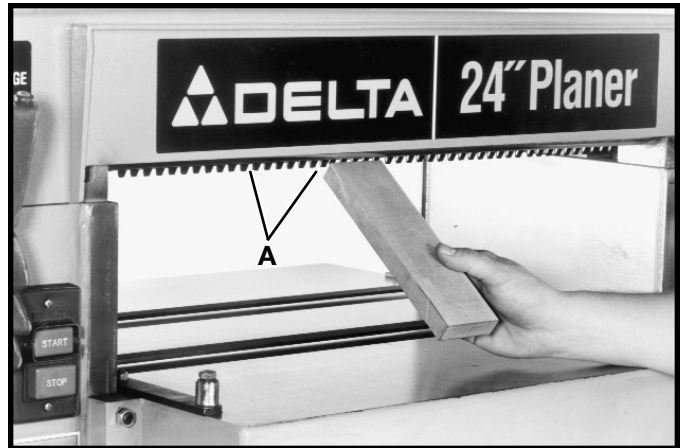

Fig. 27
A series of anti-kickback fingers (A) Fig. 27, are provided on the infeed end of the planer to prevent kickback of the workpiece during planing operations. These anti-kickback fingers operate by gravity and no adjustment is required. It is necessary, however, to inspect them occasionally to make sure they are free of gum and pitch and that they operate independently and freely.